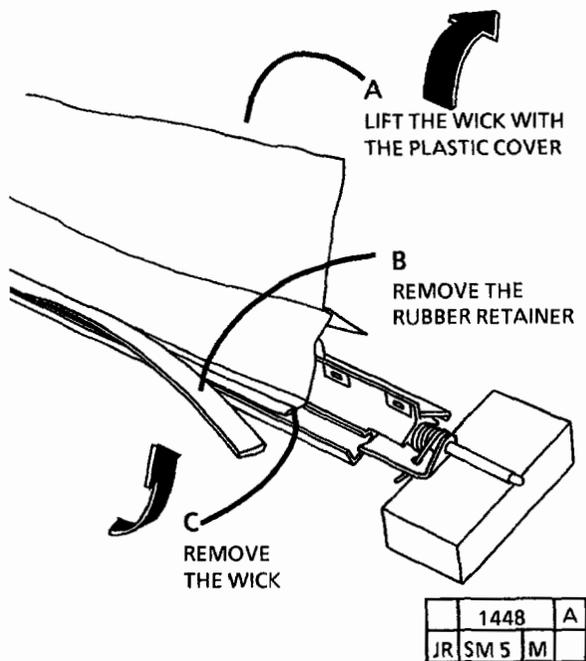

Figure 2. Remove the Wick
5. (FIGURE 2): REMOVE THE WICK.